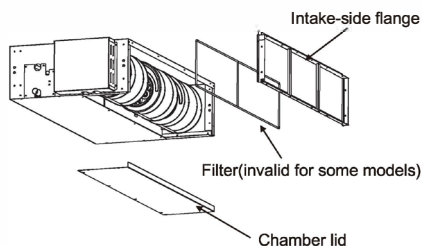

Fig. 3.1.5
For bottom intake, replace the chamber lid in the procedure listed in fig. 3.1.5
- (1) Remove the chamber lid.
- (2) Reattach the removed filter in the orientation shown in Fig. 3.1.5.